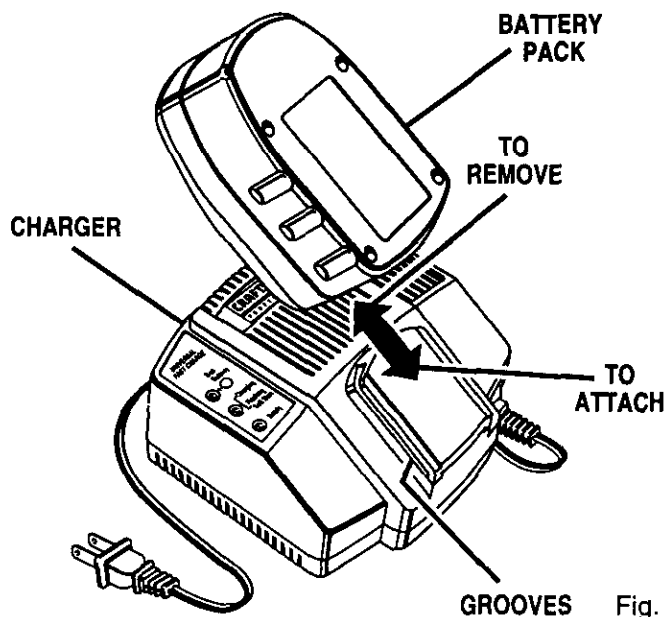

Fig. 5
- Attach battery pack to charger by aligning raised ribs on battery pack with grooves in charger, then slide battery back onto charger. See Figure 5.